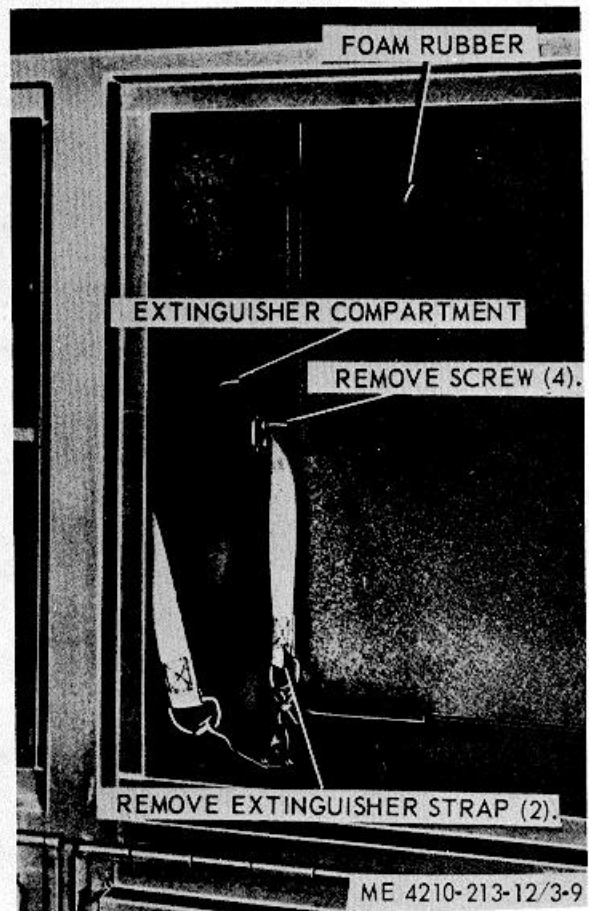

Figure 3-9. Extinguisher compartment accessories, removal and installation.
a. *Removal.* Refer to figure 3-9 and remove the extinguisher compartment accessories from the compartment.
(1) Clean all parts with an approved cleaning solvent, and dry thoroughly.
(2) Inspect all parts for damaged or defective condition.
(3) Replace or repair damaged or defective parts as necessary.
c. *Installation.* Refer to figure 3-9 and install the extinguisher compartment accessories on the compartment.